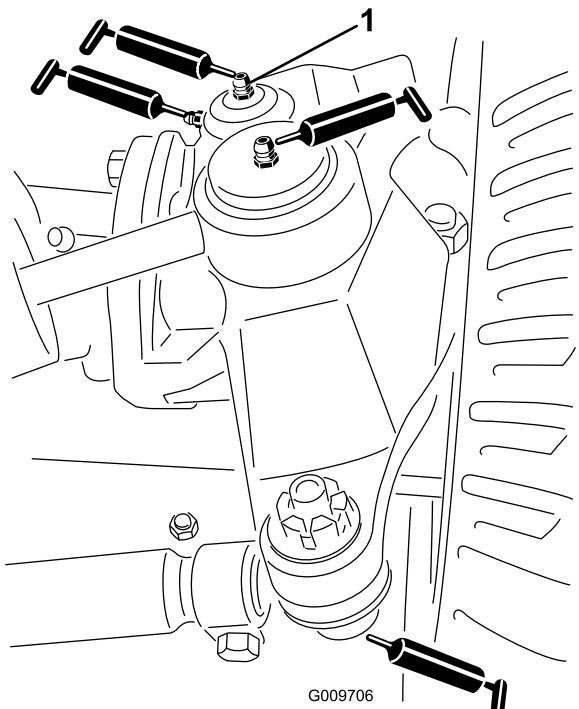

Figure 37
- Steering-cylinder ball joints (2) as shown in Figure 37
- Tie-rod ball joints (2) as shown in Figure 37
- Kingpin bushings (2) as shown in Figure 37